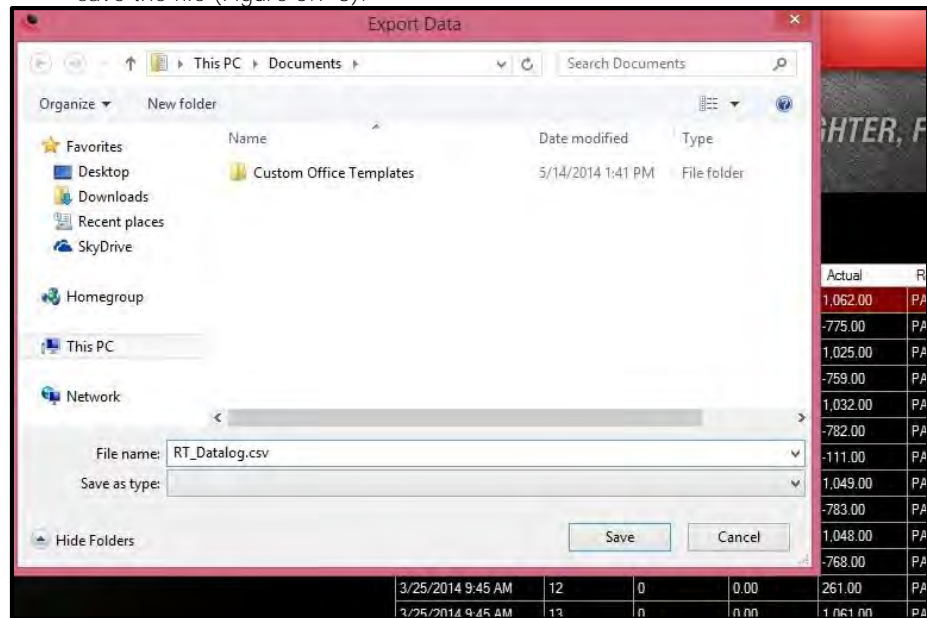

Figure 5.7-3: Saving the Data Log
3. If “Yes” or “No” was selected, a window will be displayed asking for a location to save the file (Figure 5.7-3).